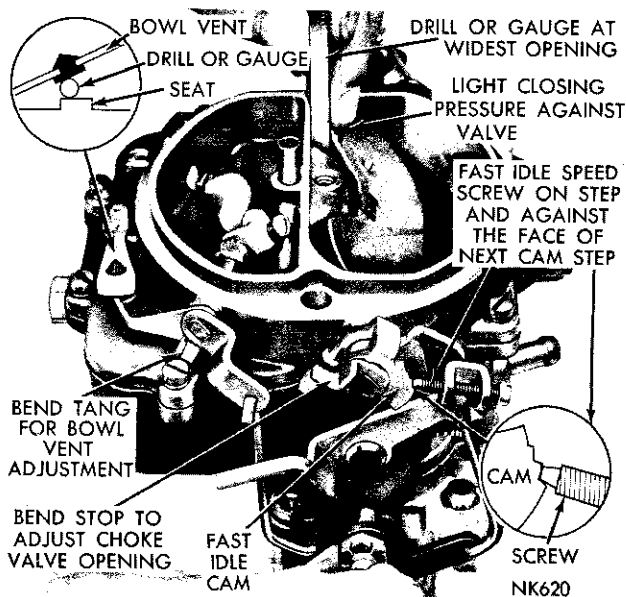

Fig. 10—Fast Idle Cam Position Adjustment
(1) With the fast idle speed adjusting screw contacting the step on the fast idle cam shown in (Fig. 10), move the choke valve toward the closed position with light pressure. Insert a NO. 35 drill between the choke valve and the wall of the air horn.
(2) An adjustment will be necessary if a slight drag is not obtained as the drill or gauge is being removed.
(3) If an adjustment is necessary, bend the stop on the choke shaft, using Tool T109-22 until the correct valve opening has been obtained. Refer to (Fig. 10).